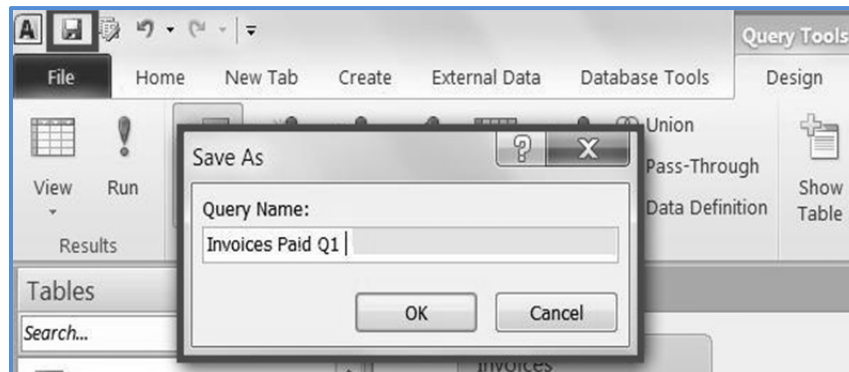

Fig. 1.2.5: Save the Query
6. Click the **Save** button  at *Quick Access Toolbar* to save the query. Type the name of query as *Invoices Paid Q1* as shown in Fig. 1.2.5.